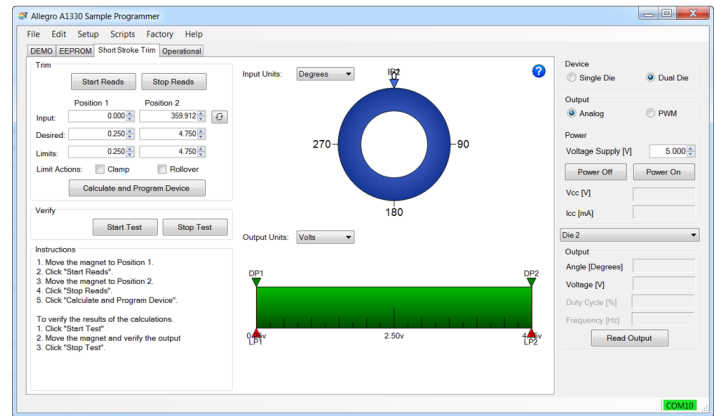

Figure 19: Short Stroke Trim Tab – Output Units Volts
2. With the output units changed to volts, the window will look like Figure 19. Located in the 'Trim' box are several options: